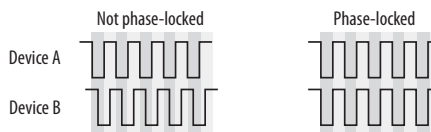

Figure 5-15: When transferring audio, two devices must have phase-locked audio clocks to prevent clicks, pops or other artifacts.
- Synchronizing with other digital audio devices so that their digital audio clocks are *phase-locked* (as shown in Figure 5-15)